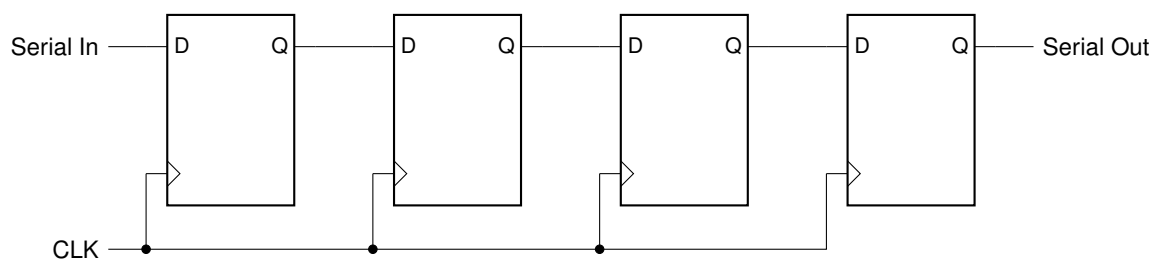

Figure 5.4: Schematic of a 4-bit serial in / serial out (SISO) register.
**Serial in / serial out (SISO)** registers can be used in data buffering, storing data temporarily while it is in between its source and its destination. Serial data is sent to the input of the first flip-flop, and at each clock cycle the signal is shifted through subsequent flip-flops. Registers with serial input take the longest time for data to transmit from one end to the other. Registers with serial output additionally take longer than parallel output devices to access the data stream at the end. A schematic of a 4-bit SISO register is shown in Figure 5.4.